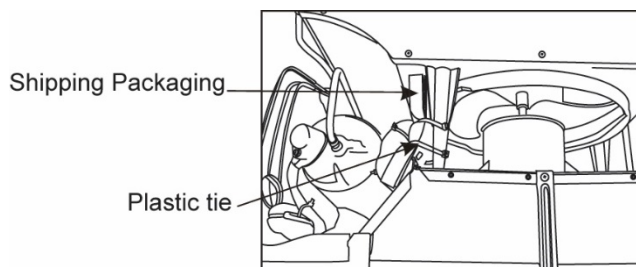

Fig.7
10. If the unit comes with internal packaging it must be removed prior to installing the air conditioner back into the cabinet. (Figure 7)